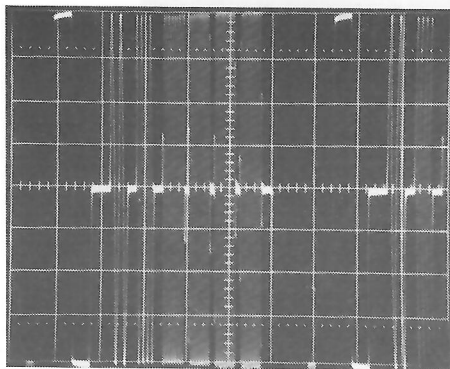

Fig. 17-2 L1, L2 correctly adjusted. C33 to max.
- Select "FULL-FIELD" mode, line 17 (A)/NTC-7 COMP.
- Select "FULL-FIELD" mode, line 18 (B)/NTC-7 COMB.
- Adjust L1 and L2 in such a way that the multiburst frequencies form a straight line (from lowest freq. to highest freq.) and minimum spikes; refer to fig 17-2.